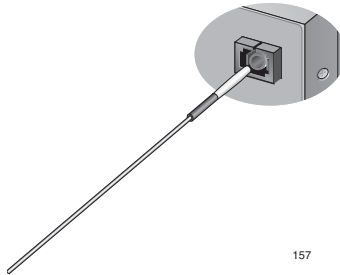

Figure 27. Cleaning a Recessed Ferrule
1. Insert the swab into the adapter as shown in Figure 27. Rub the ferrule tip with the swab.